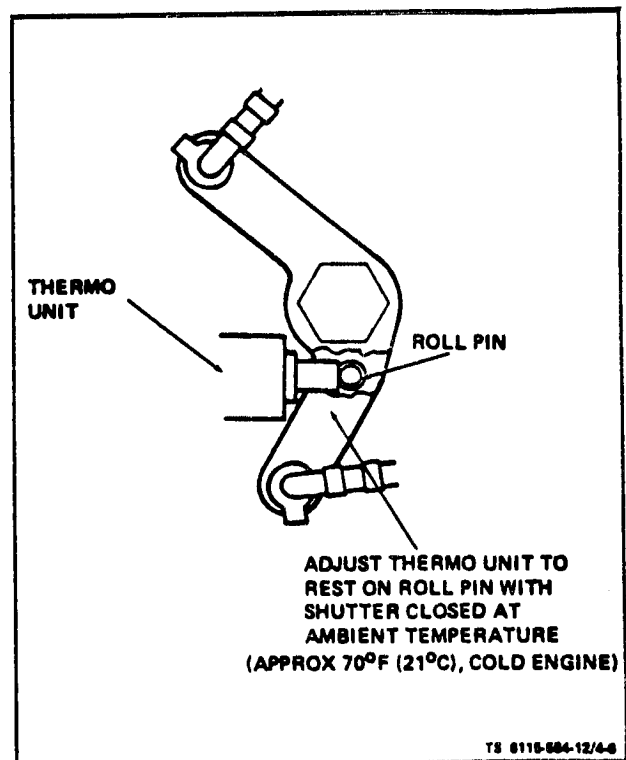

Figure 4-6. Adjusting Thermo Unit
(2) Thermo Unit (see figure 4-6). With Generator Set at 70° F, (21°C) loosen thermo unit guide mounting screws, the mounting holes in the shutter box are slotted. Slide the assembly to a position where the thermo unit plunger rests on roll pins with shutters closed. Tighten mounting screws.